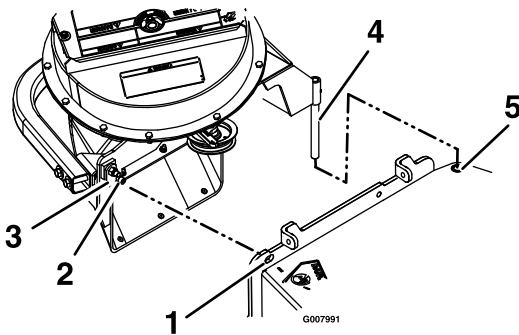

Figure 11
15. Mount the blower on the deck by inserting the mounting pin into the tube welded to the rear corner of the deck (see Figure 11). Pivot the blower until the front pin engages the slot in the deck. Adjust the position of the front pin if necessary to engage the slot. Use the latches to lock the blower in this position. Adjust the tension on the latch to hold the blower up to the deck, yet allow for release by hand.